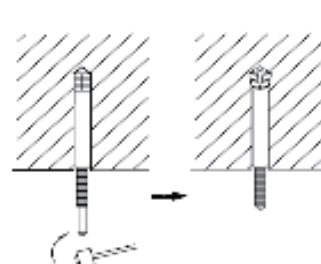

Figure 3-1-42
- (3). Insert the anchor bolts into the drilled holes, and drive the pins completely into the anchor bolts with a hammer. (Figure 3-1-42)